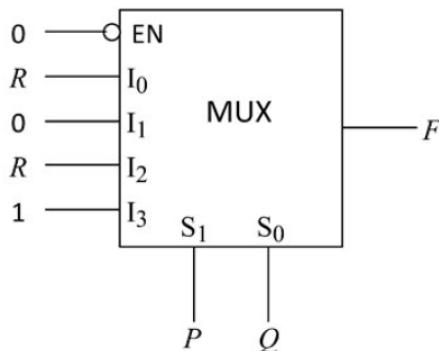

Fig. 4.9
13. Fig. 4.9 below shows a multiplexer where S0 and S1 are the select lines, I0 to I3 are the input lines, EN is the enable line and F is the output. Find the boolean expression for output F as function of inputs P, Q, R using K-map. (GATE EC 2020)